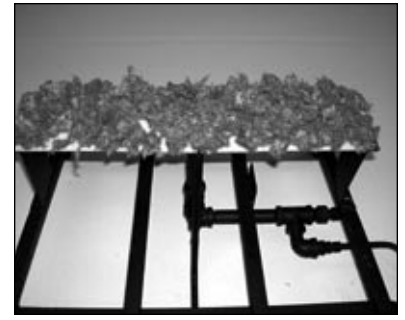

Figure 3-2
5. Place glowing ember material over sand (vermiculite LP). (Figure 3-2)